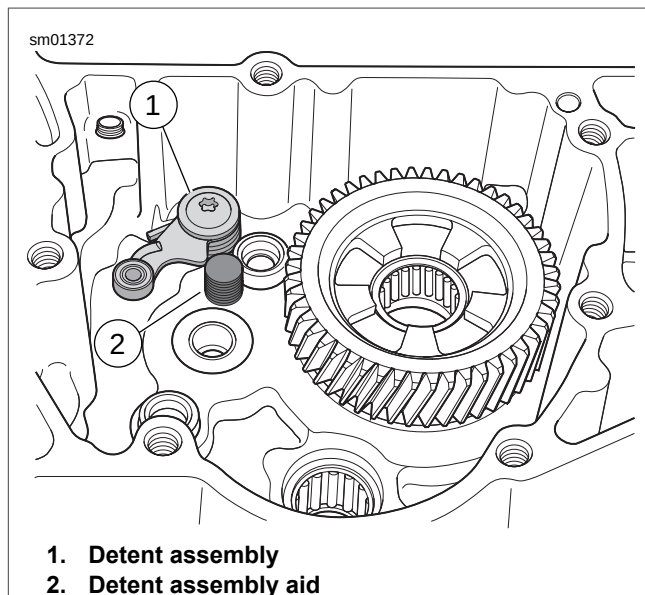

Figure 5-94. Using Gear Detent Assembly Aid (Part No. B-45520)
1. See Figure 5-94. Retract detent assembly in right case half and thread GEAR DETENT ASSEMBLY AID (Part No. B-45520) into neutral switch hole until it has bottomed in right case half.